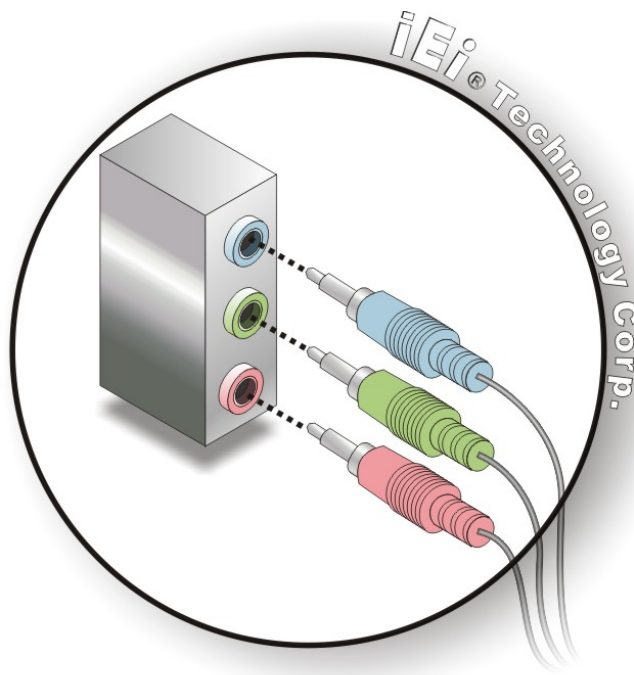

Figure 5-18: Audio Connectors
Step 6: Insert audio phone jack plugs. Insert audio phone jack plugs into the audio phone jacks on the external peripheral interface. See **Figure 5-18**.